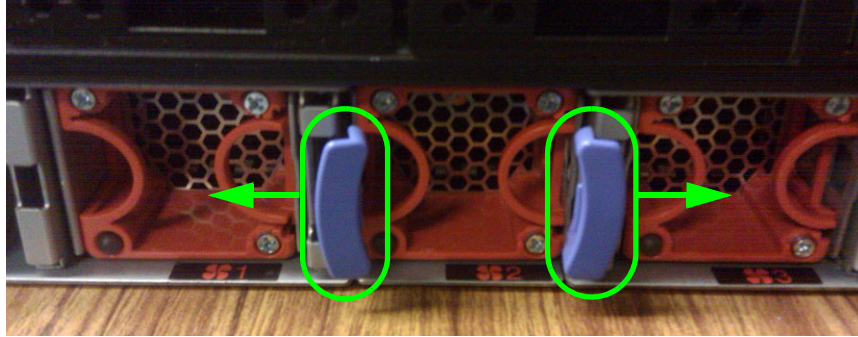

Figure 6-10 Blue release tabs for the memory tray cam levers
3. As shown in Figure 6-10, there are two blue release tabs that, when pressed to the sides of the enclosure, allow you to pull out the cam levers that are used to begin to pull out the memory tray.